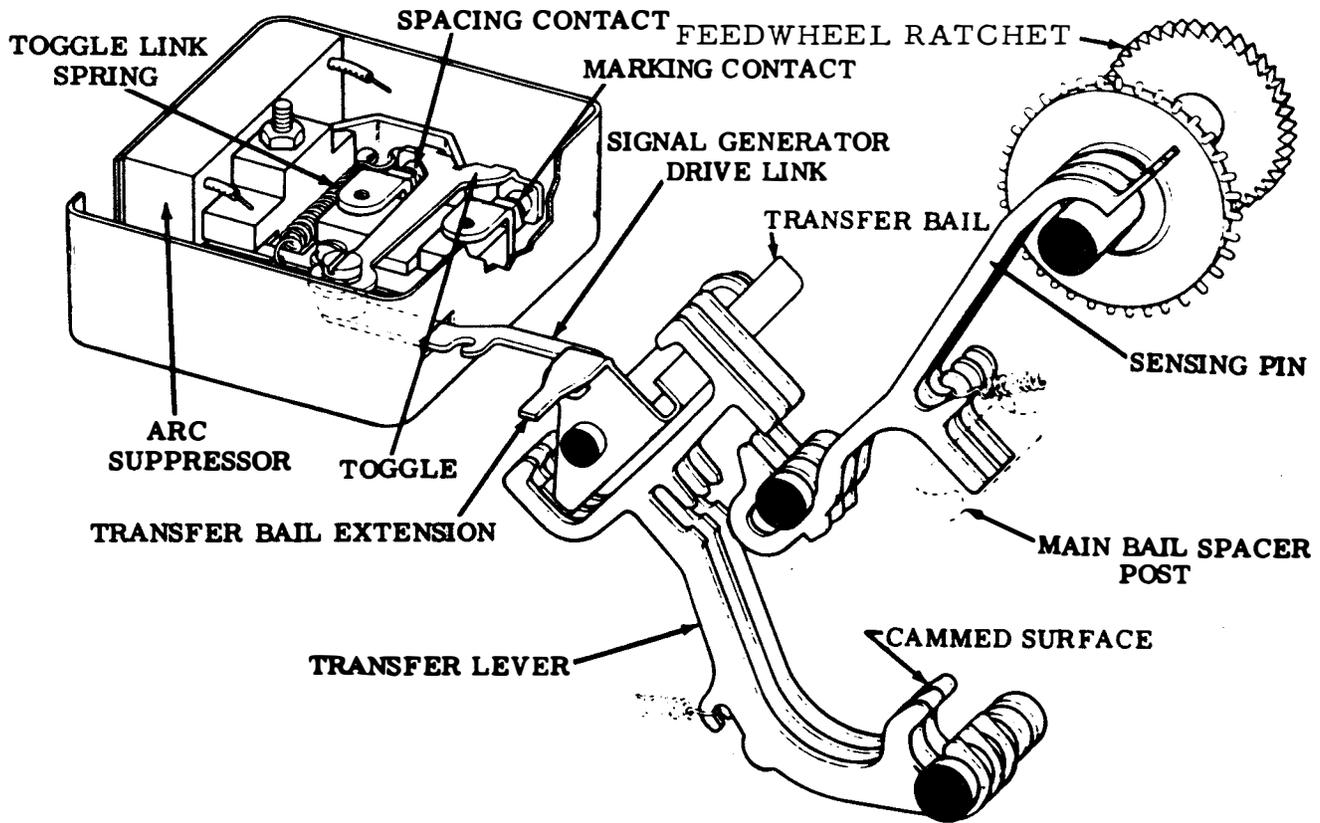

Figure 3-12. Transfer Lever and Signal Generator Mechanisms
(6) Further rotation of the main shaft moves the lobe of the start cam into position so it cams its respective transfer lever. Since the start transfer lever has no sensing pin, the lever is always in the spacing position. The start transfer lever upper finger hocks the upper side of the transfer bail and causes it to pivot clockwise. The transfer bail extension (figure 3-12) moves the signal generator drive link causing the toggle to open the marking contact and close the spacing contact in the signal generator contact assembly. The extension, in moving to the spacing position,